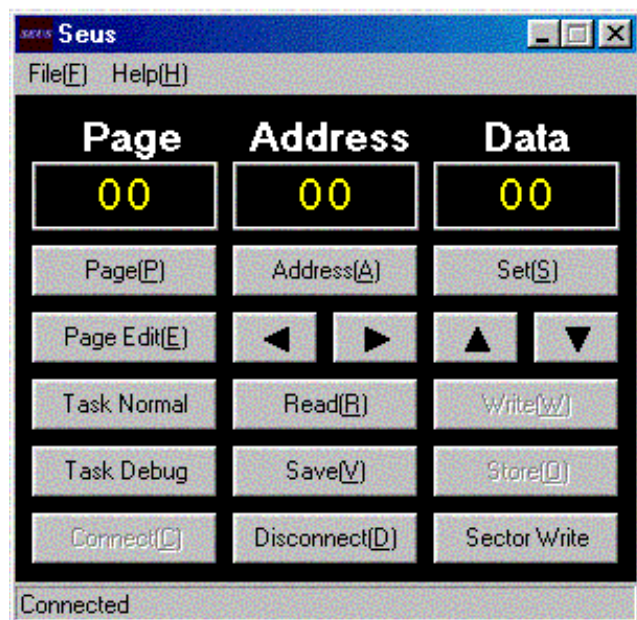

Fig. 6-1-8
- 5) Click **Connect** on the SEUS screen. If the connection is normal, the SEUS screen will be as shown in Fig. 6-1-8, indicating the "connected" state.